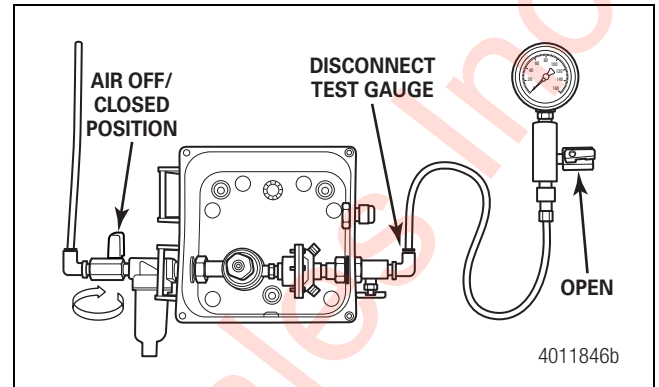

Figure 3.22
- C. Disconnect the test gauge. Figure 3.22.